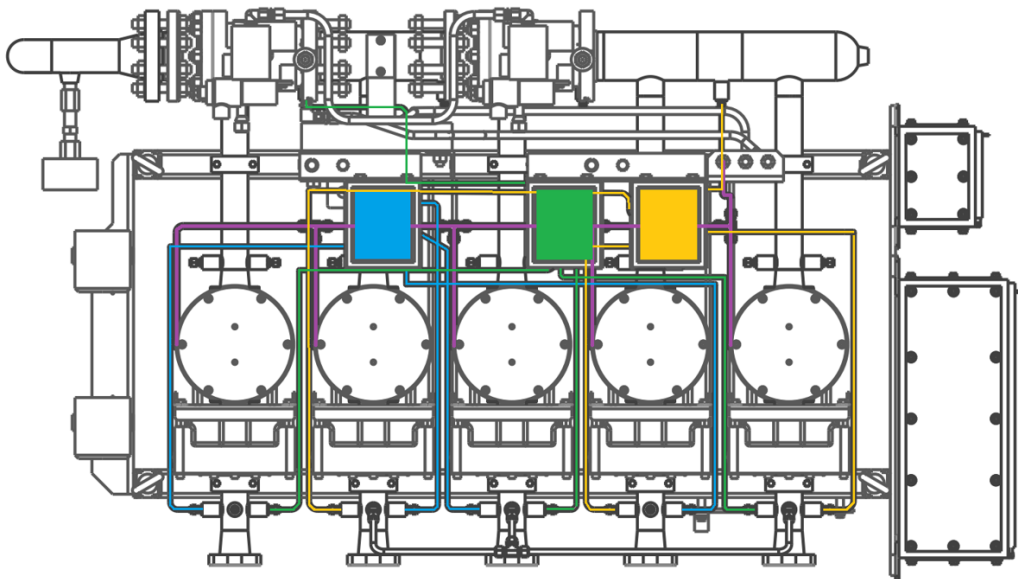

Figure 3-4. Approx. Pressure Transducer Tube Routing
- Using the ¼" (SAE -04) stainless steel tube, route the pressure transducer tube lines in accordance with the Woodward DLE Fuel Skid P&ID Drawing, using Figure 3-4 as an approximate reference for tube routing.